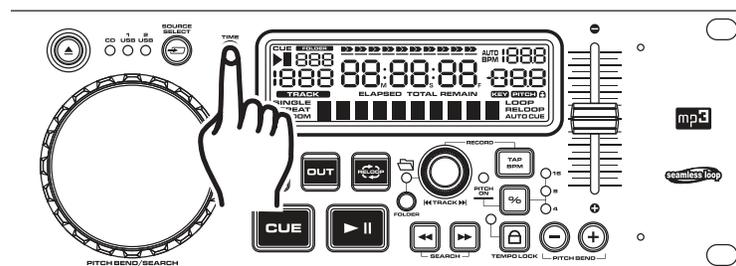

Figure 14
12. CHANGING THE TIME DISPLAY (26)/TIME BAR (27):
The time may be displayed in three different modes; Total Remain, Remain, and Elapsed. During normal playback, pressing the *TIME BUTTON* (5) as in figure 14, will change the time display information (26) in the LCD. The following is a break down of the time settings and their definitions:
1) **TOTAL REMAIN (34)** - This details the time in the *LCD* as the current CDs' total remaining time.
2) **REMAIN (34)** - This details the time in the *LCD* as the current tracks' remaining running time.